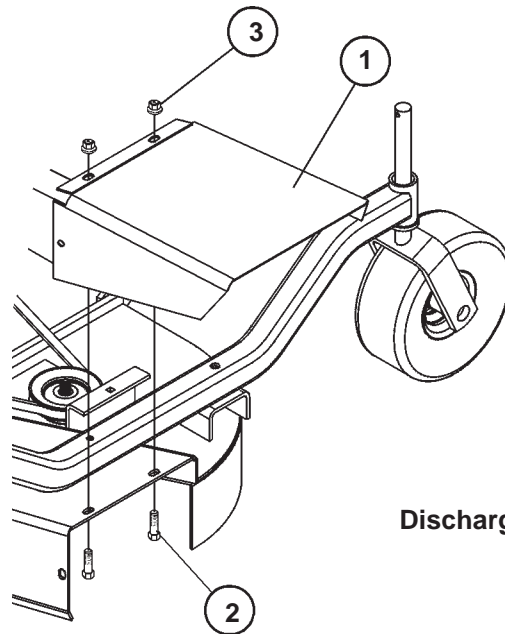

FIGURE 5
Attach discharge chute (1) to mower platform using four 3/8" x 3/4" bolts (2) and 3/4" locknuts (3) as shown. **FIGURE 5.**